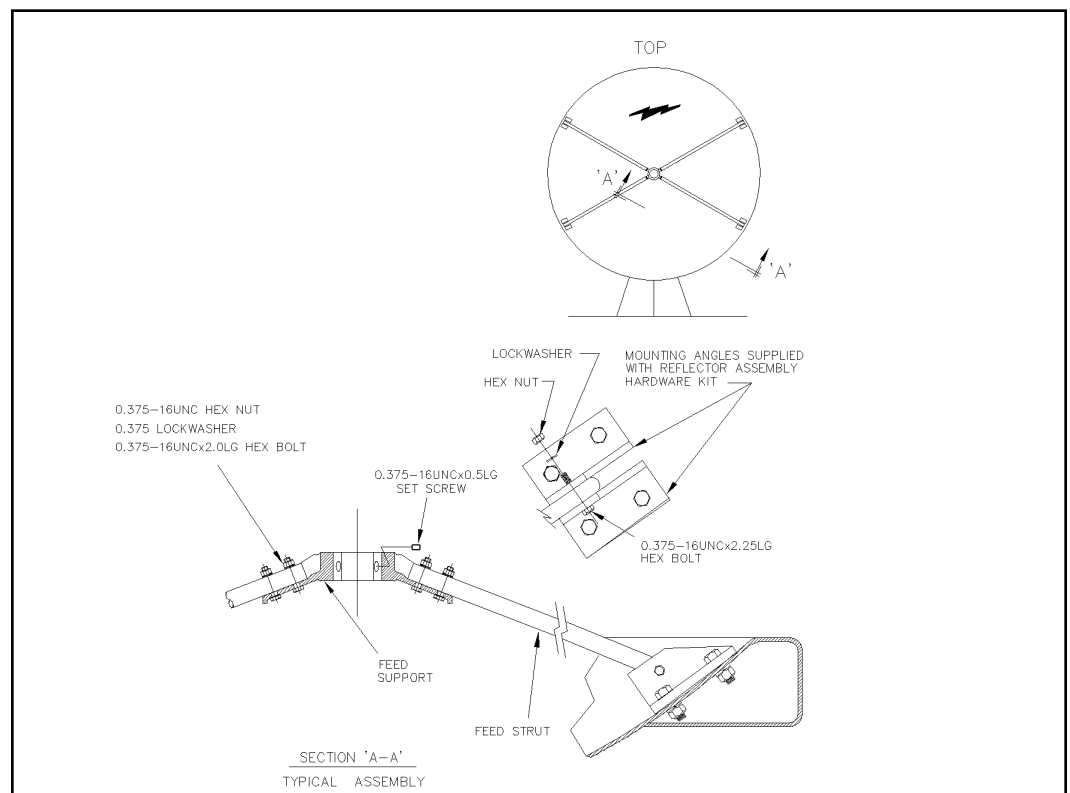

Figure 78
Step 1 Attach feed struts to 222930 feed support as shown in Figure 78.